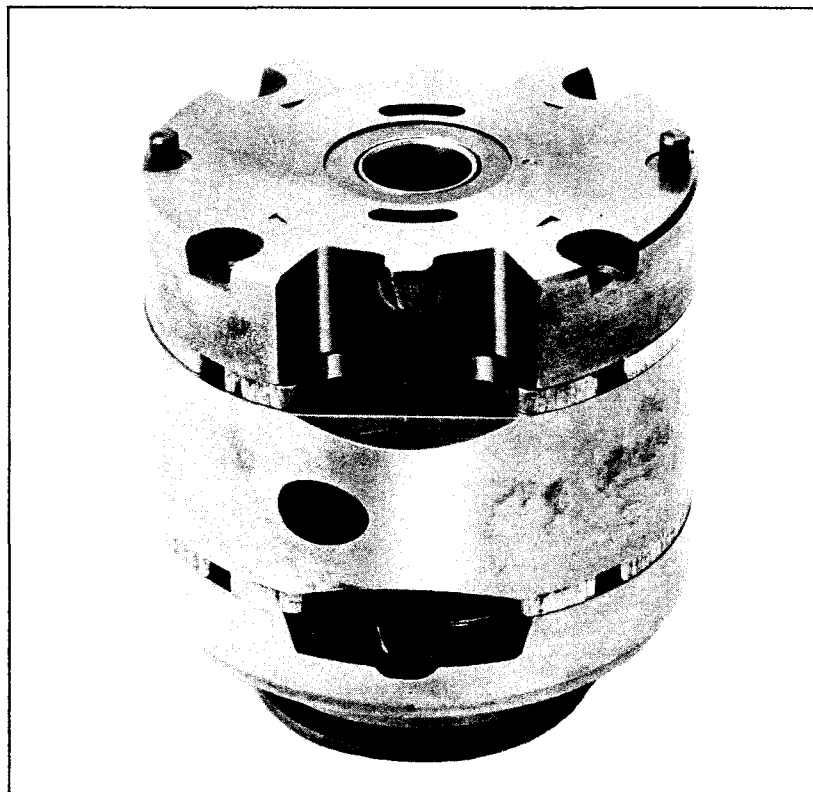

Figure 21 - Cartridge ready for installation of socket head screws.
g. Lubricate the exposed surface of the rotor and vanes with system fluid. Locate the scribe mark on the inlet support plate and flex side plate. Hold the inlet support plate and flex side plate together and assemble over the cam ring and rotor with scribe marks in-line. (See figure 21).